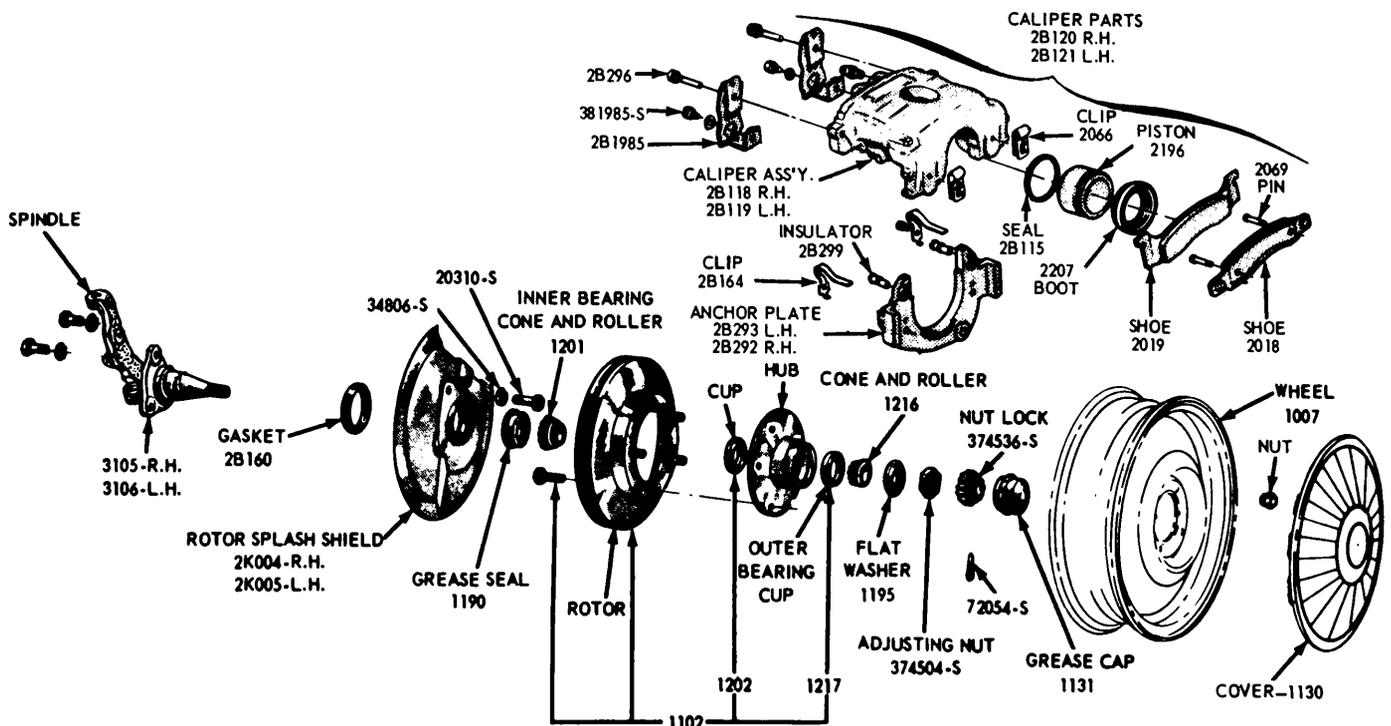

Fig. 5—Disc Brake—Disassembled
The inboard and outboard shoe and lining assemblies are mounted in two different ways. The outboard shoe and lining is fixed to the floating caliper and is retained by two pins and spring clips. The inboard shoe and lining rests on the anchor plate abutments and is retained by two spring clips (Fig. 5). The shoe and lining
Refer to Fig. 5.
5. Remove the two outer shoe retaining clips from the retaining pins (Fig. 5).
1. Remove the wheel and tire from the hub (Fig. 5). **Be careful to avoid damage or interference with the bleeder screw fitting.**
1. If the rotor is being replaced, remove the protective coating from the new rotor with carburetor degreaser. Pack a new set of bearings with specified grease (CIAZ 19590-B), and install the inner bearing cone and roller assembly in the inner cup. Pack grease lightly between the lips of a new grease seal and install the seal (Fig. 5).
2. Remove the three bolts that attach the splash shield to the spindle (Fig. 5).
1. If the shield is bent, straighten it out before installation. Position a new splash shield to spindle gasket and the splash shield to the mounting bracket. Install the attaching bolts, nuts, and torque them to specification (Fig. 5).